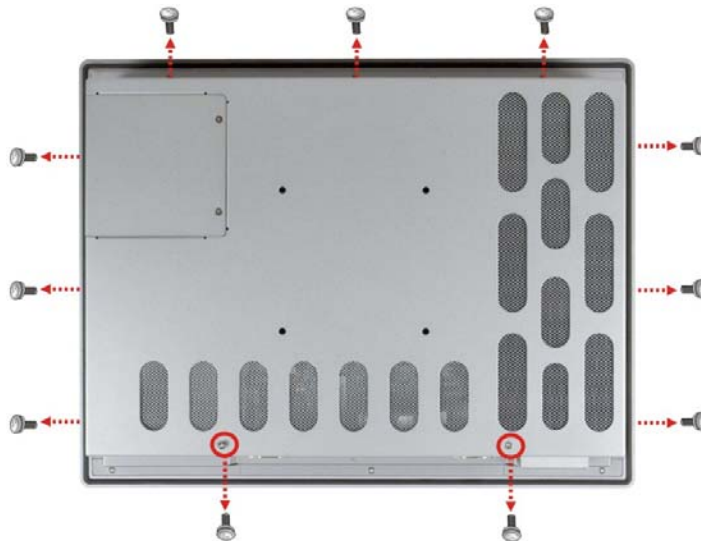

Figure 3-3: Rear Panel Retention Screws
Step 1: Remove a total of 11 retention screws from the back cover, nine on the rear of the frame and two on the rear panel (**Figure 3-3**).